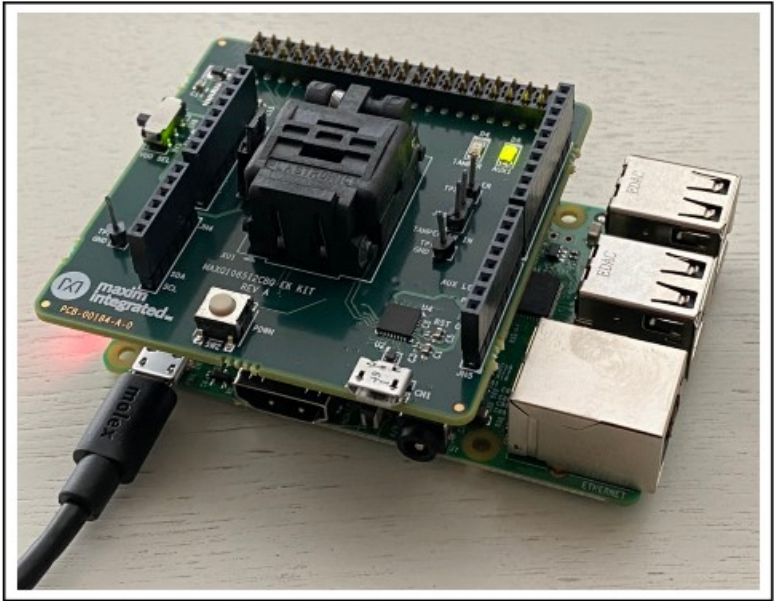

Figure 4. Raspberry Pi Powered on through its Own USB Connector
5. Power on the Raspberry Pi board through its own USB connector, as shown in Figure 4.